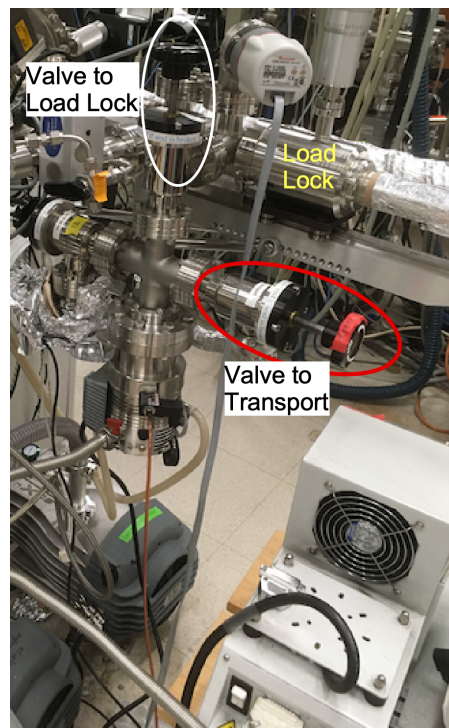
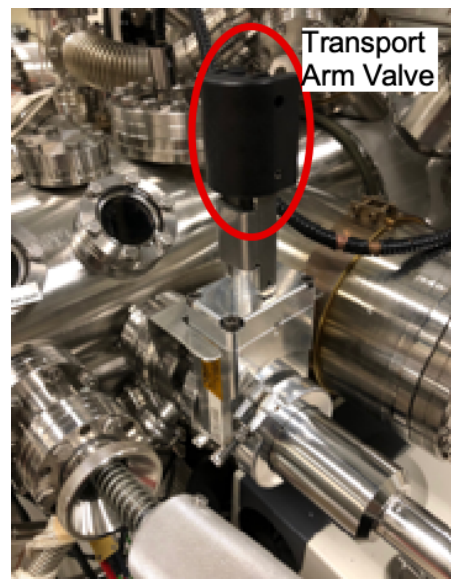

Figure 3 Valve to Transport and Valve to LL from Turbo pump
Figure 4 Transport arm attached to the KF Flange with transport arm valve handle facing up.
- (9) Vent the LL and wait till it comes up to atmosphere.
- (10) If the valve to the Transport is closed, open it, Figure 3. This valve should be left open all the times to prevent forming pressure differentials that can damage the pump or compromise the atmosphere of the STC if valves are inappropriately handled.
- (12) Restart the LL turbo pump and check that “V to transport” valve is open, Figure 3, so the space between the transport arm and the STC gets pumped down.
- (13) Put sign on the LL turbo that the transport are is attached and the operation of the LL turbo should not be changed.
- (14) Keep the valve on transport arm **closed** and wait until the turbo pump reaches full speed and the pressure is $<10^{-4}$ Torr
- (15) Vent LL again (venting LL is only possible if turbo pump is up to speed).
- (16) As soon as pressure gauge on LL reads 7.5×10^2 Torr, i.e., the LL is still under a slight vacuum, start the LL turbo pump again and open the hand valve on the transport arm, Figure 4, the handle facing up, (**NOT THE VALVE to STC FACING DOWN!!!!**)
- (17) Wait until LL pressure is $<10^{-6}$ Torr, takes about 1h.
- (18) Open the regular LL/STC gate valve using the computer to check if it can actually be opened and no interlock prevents it (if you cannot open this valve, check if LL is at low enough pressure and the normal LL transport arm is fully retracted; if these were not the problem, stop here and call a GLA)
- (19) **CRITICAL STEP:** Check that
- b. “V to transport valve” is open, Figure 3
- c. Hand valve on the PTS (the one facing up) is open, figure 4.
- (22) Fully retract Transport arm back into its chamber, lock the magnet, and close the PTS valve, Figure 4.